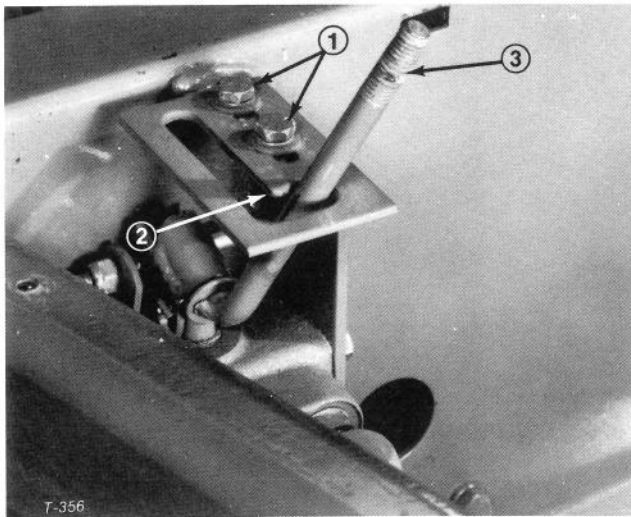

Figure 52
3. Loosen two capscrews on top of the lift lever latch (Fig. 52). Place lever on rounded tip of latch (Fig. 52), and slide latch w/lever forward until stopping resistance is felt. Then tighten the capscrews to lock the latch in place. Check for free operation of the lift lever by moving lever from RAISE or TRANSPORT to FLOAT position. Lift lever should just clear rounded portion of latch as lever is moved into FLOAT position.